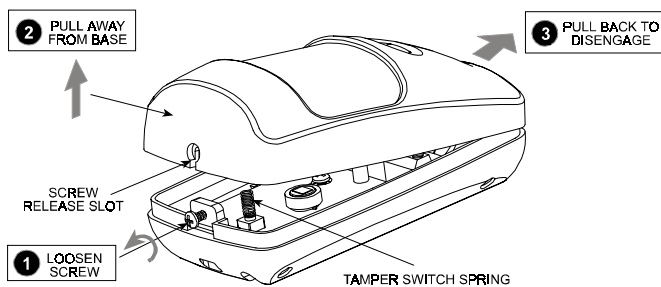

Figure 3. Cover Removal
A. Remove the front cover as shown in Figure 3.
- A. Remove the front cover as shown in Figure 3.